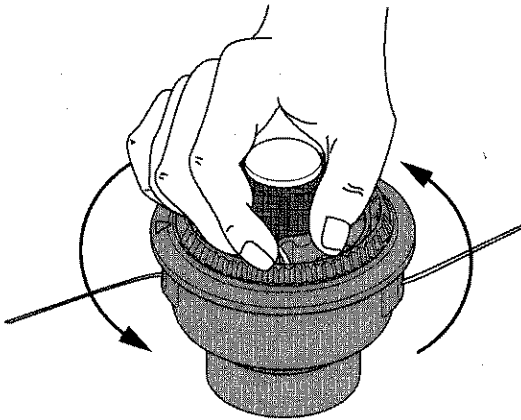

Fig. 23
8. Hold the outer spool. Wind the inner reel counterclockwise until approximately four (4) inches (102 mm) of line remain (Fig. 23).